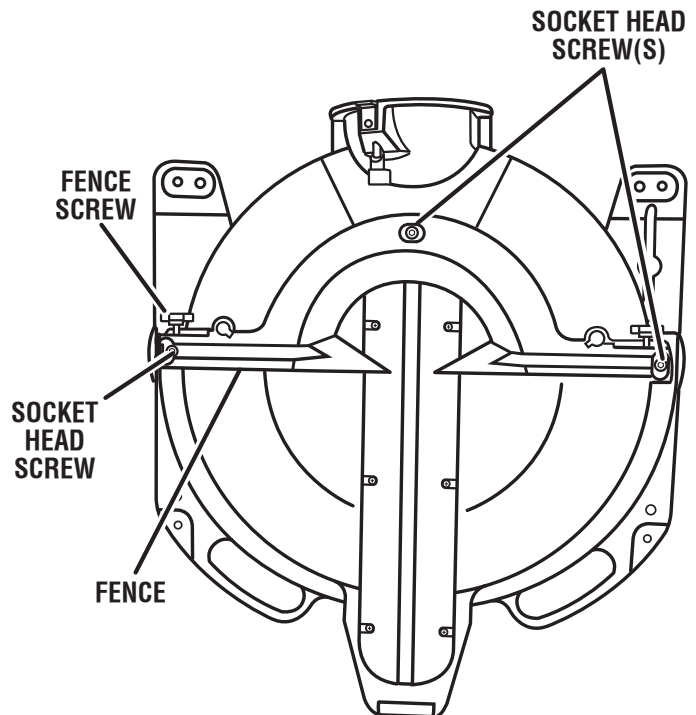

Fig. 19
See Figures 19 - 23.
- Loosen the socket head screws that secure the fence to the miter table. See Figure 19.